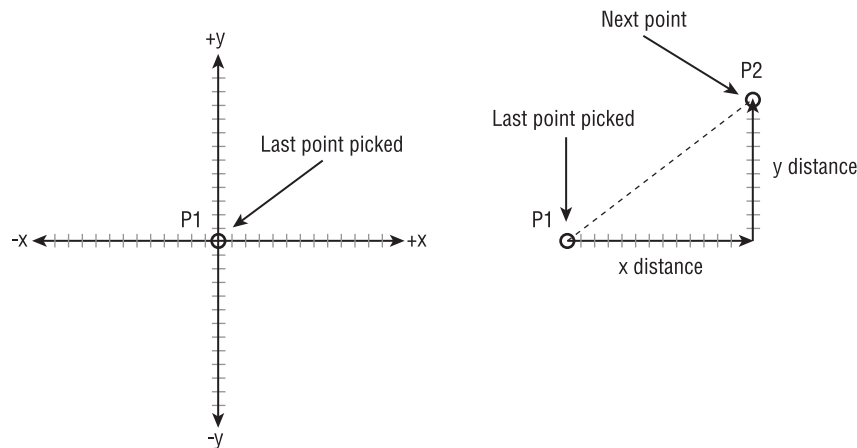

FIGURE 2.6: The relative Cartesian coordinate system
The Cartesian system of coordinates, named after the philosopher René Descartes, who invented the X,Y coordinate system in the 1600s, uses a horizontal (X) and vertical (Y) component to locate a point relative to the 0,0 point. The relative Cartesian system uses the same components to locate the point relative to the last point picked, so it's a way of telling AutoCAD how far left or right and up or down to extend a line or to move an object from the last point picked (see Figure 2.6). If the direction is to the left, the X coordinate will be negative. Similarly, if the direction is down, the Y coordinate will be negative. Use this system when you know the horizontal and vertical distances from point 1 to point 2. To enter data using this system, use this form: @x,y.